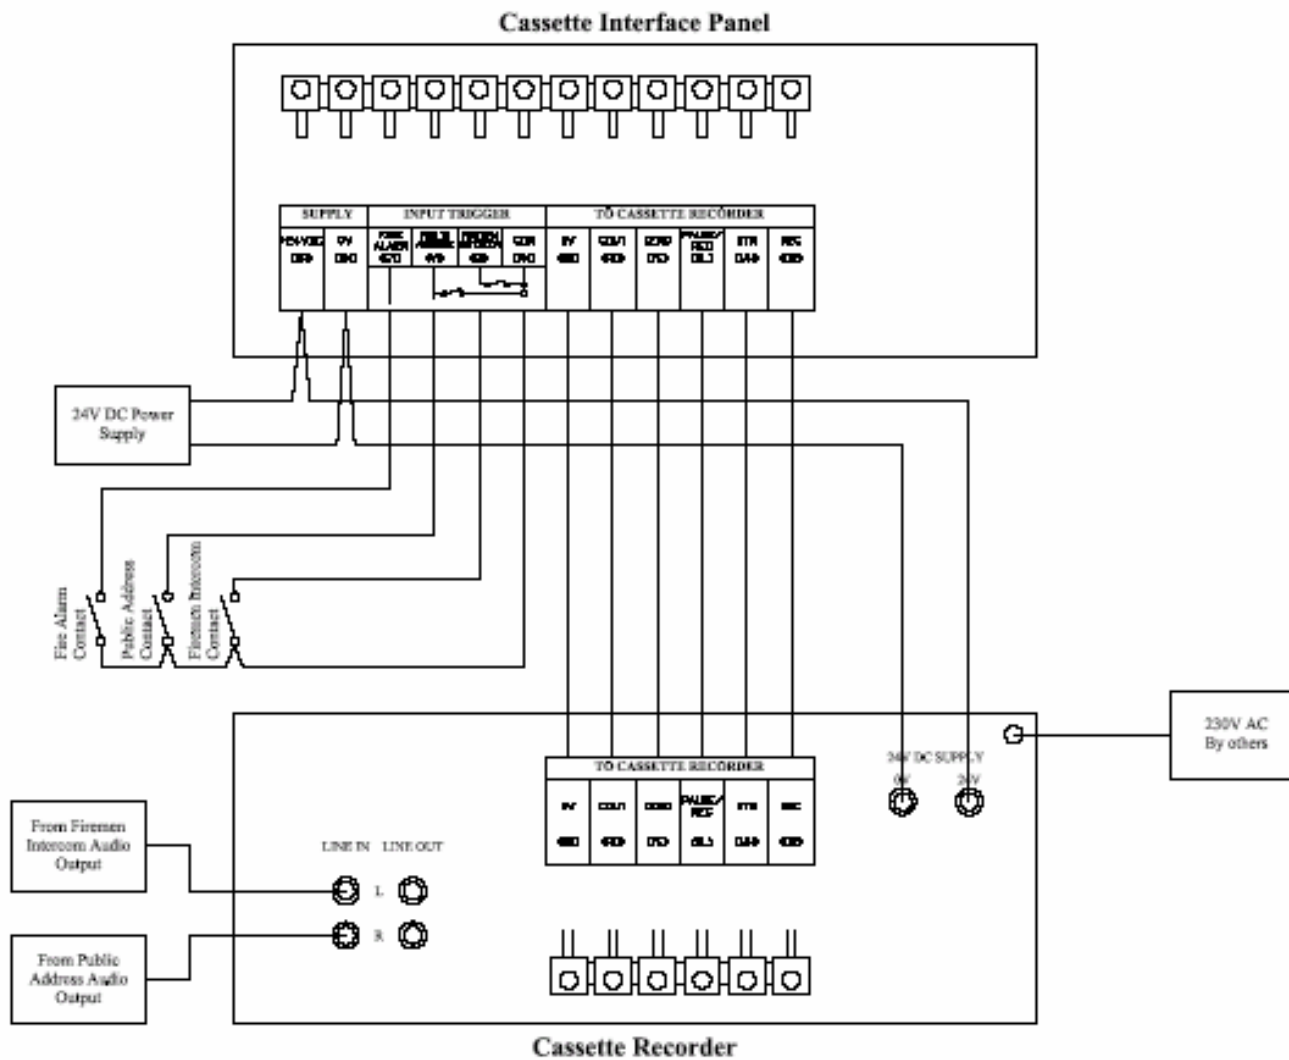

Figure 3.1 EVC7790 System connection & power supply setup
1. Connect the cassette interface panel according to the diagram provided in Figure 3.1.